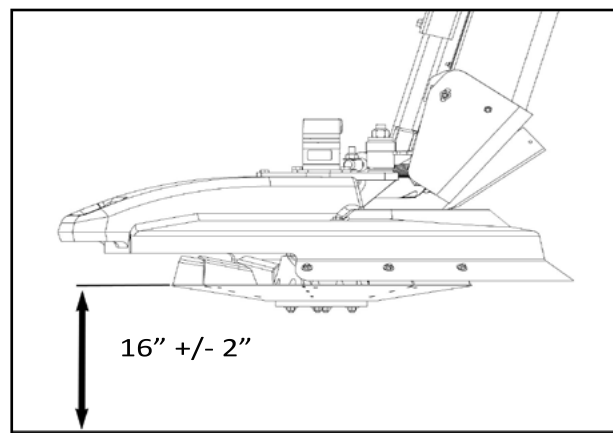

Figure 14 - Measure Spinner Height
- Measure distance from outer edge of spinner disc to ground as shown in Figure 14. Distance between disc and road surface must be 16" +/- 2" (356-457mm). Note difference between required and actual height of disc.